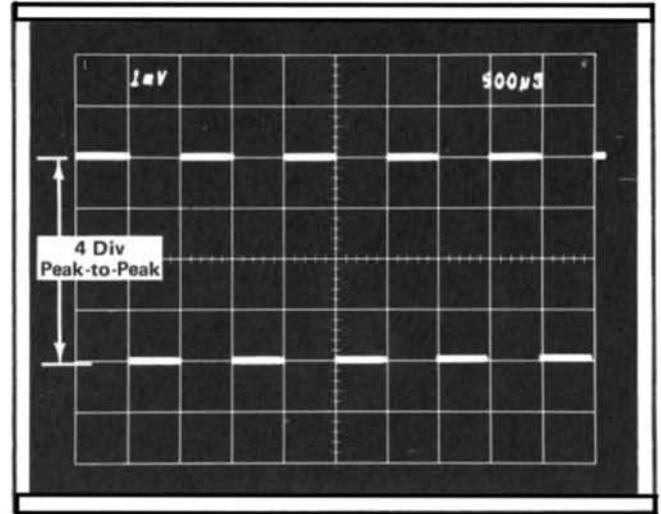

Fig. 5-4. Waveform display obtained showing correct vertical gain at 1 mV/div. Sweep rate: 0.5 ms/div.
c. CHECK—CRT display for exactly 4 divisions of vertical deflection (see Fig. 5-4).